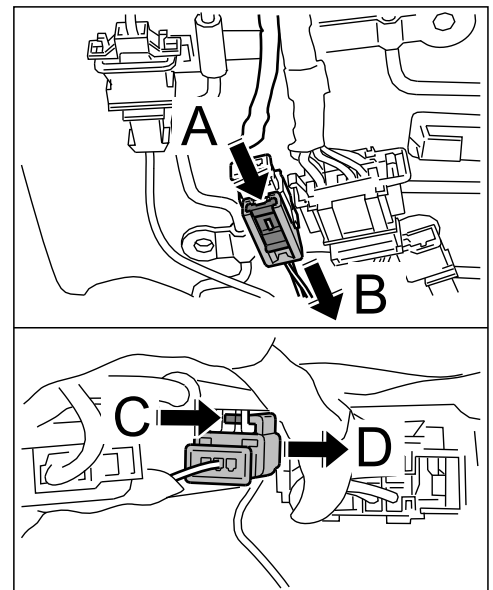

Figure 2
- 2.2 Push back lock on the side airbag plug (⇒ *Figure 2 -Arrow A-*) and remove from the plug socket on the side airbag (⇒ *Figure 2 -Arrow B-*).
- 2.3 Release side airbag plug at the seat frame (⇒ *Figure 2 -Arrow C-*) and push it out towards the front (⇒ *Figure 2 -Arrow D-*).